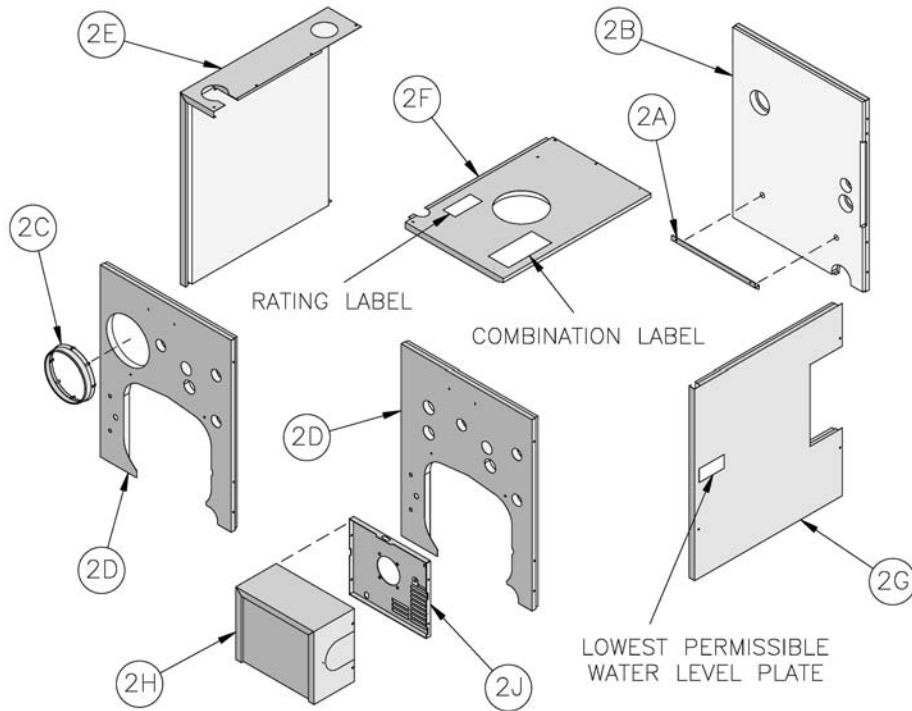

Figure 6: Knockdown Boiler Jacket Assembly
I. INSTALL BOILER JACKET. (See Figure 6).
1. Remove burner swing door and hinge assembly. Remove one (1) 5/16"-18 flange nut and washer from right side latching stud and one (1) 5/16"-18 x 3½" cap screw on left side used for securing burner swing door to the boiler section. Swing door open and remove 5/16" hairpin cotter from rear hinge pin. While holding swing door remove hinge pin and set door aside. Remove two (2) 5/16" - 18 x ¾" long cap screws securing the hinge bracket to the boiler section.
2. Install jacket rear panel support bracket. (See Figure 6, Item 2A). Align bracket with two (2) 5/16" - 18 tapped holes in rear section and secure with two (2) 5/16" - 18 x 1/2" long cap screws.
3. Install jacket rear panel. (See Figure 6, Item 2B). Align holes in jacket rear panel and support bracket. Secure with two (2) #8 x 1/2" long sheet metal screws.
- a. Install black plastic collar extension to jacket front panels for 7-13/16" diameter tankless heater opening. (See Figure 6, Items 2C and 2D). Engage two (2) of the collar retaining tabs over raw edge of jacket opening. Provide support behind the panel with one hand while applying pressure on collar to snap each tab over edge of opening until all eight (8) tabs are securing collar.
- b. Install jacket front panel. Locate two (2) 11/32" diameter holes, one round, one obround, on front panel approximately 16" up from the bottom of the panel. Align these holes with the similarly located 5/16" - 18 tapings on the front section. Secure with two (2) 5/16" - 18 x 1/2" long cap screws.
5. Install jacket left side panel. (See Figure 6, Item 2E). Fold panel at perforation keeping insulation inward. Align left side panel mounting holes with the front and rear panel holes. Secure with #8 x 1/2" long sheet metal screws.
6. Install jacket top panel. (See Figure 6, Item 2F). Place jacket top panel on boiler and secure to front, rear and left side panels with #8 x 1/2" long sheet metal screws.
7. Install jacket right side access panel. (See Figure 6, Item 2G). Align right side panel mounting holes with front and rear panel holes. Secure with #8 x 1/2" long sheet metal screws.
- a. Locate both the Rating Label and Combination Warning Label (P/N 8142803). Remove paper backing from the labels and apply to the jacket top panel in approximate locations shown in (Figure 6, Item 2F).
- b. On steam boilers only; locate Lowest Permissible Water Level Plate (Form No. 1204 shipped in Steam Trim Carton). Align plate with two 1/8" diameter holes located near the front edge; in line with the lower sight glass tapping, of the jacket right side access panel. Attach plate with two (2) #8 x 1/2" long sheet metal screws. (See Figure 6, Item 2G).